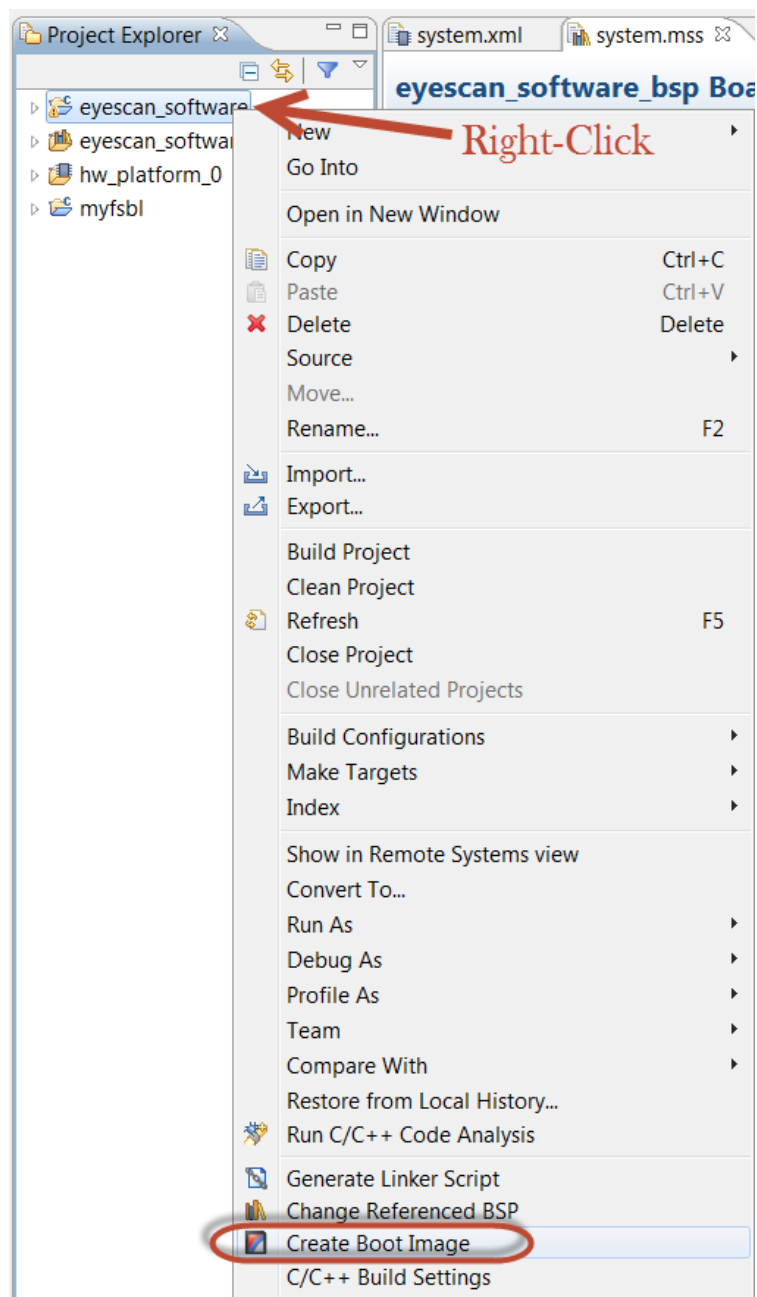

Figure 25: Creating a Zynq-7000 Boot Image
18. Next, create the image by right-clicking the eye_scan_software project and select **Create Boot Image** as shown in Figure 25.